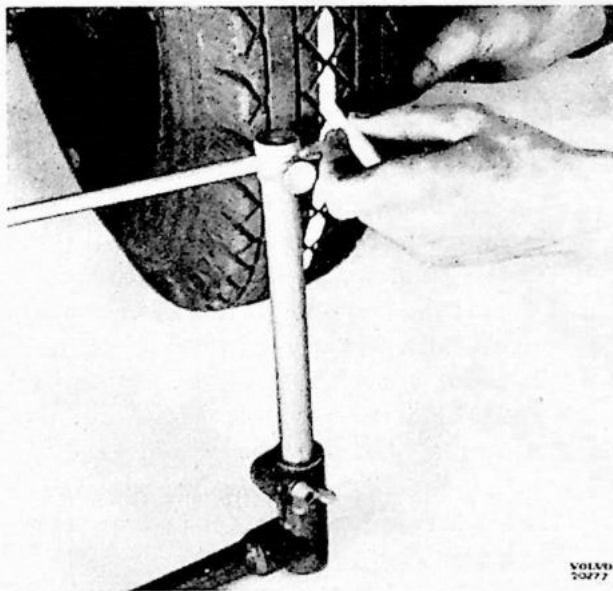

Fig. 37. Chalking the tyre.
2. Chalk and check the tyres by rotating them and using the measuring tool shown in figs. 37 and 38.